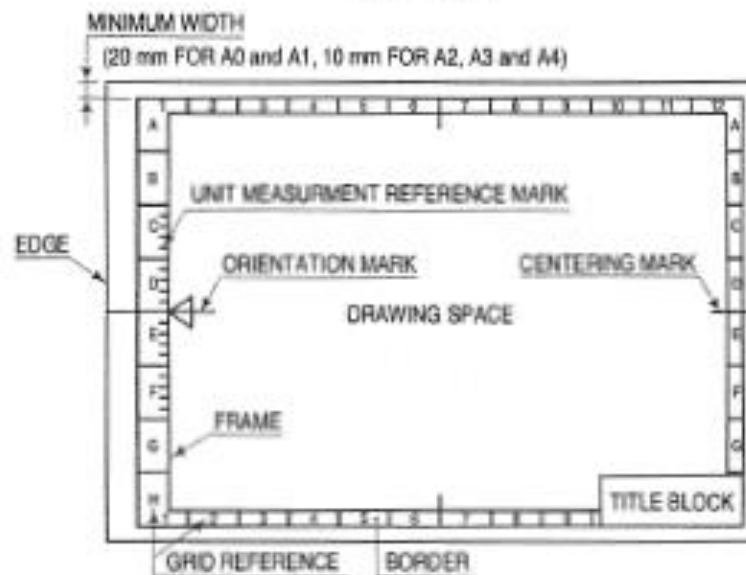
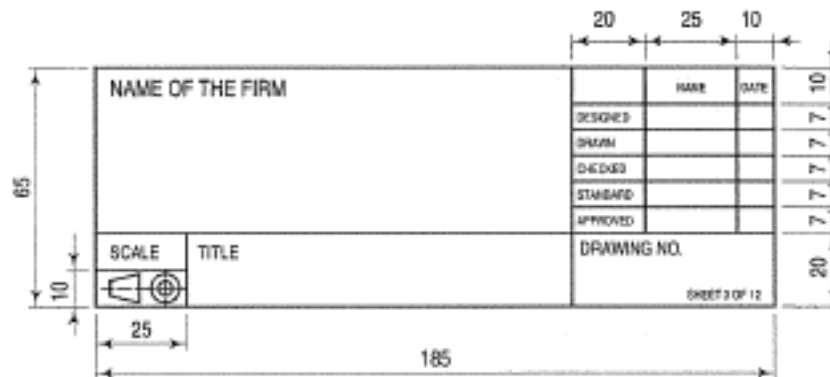

FIG. 2-1(b)
FIG. 2-2
(7) **Title block:** Space for the title block must be provided in the bottom right-hand corner of the drawing sheet as shown in fig. 2-1(a) and fig. 2-1(b). The size of the title block as recommended by the B.I.S. is 185 mm × 65 mm for all designations of the drawing sheets. Fig. 2-2 shows the simplest type of a title block. All title blocks should contain at least the particulars as shown in table 2-2.